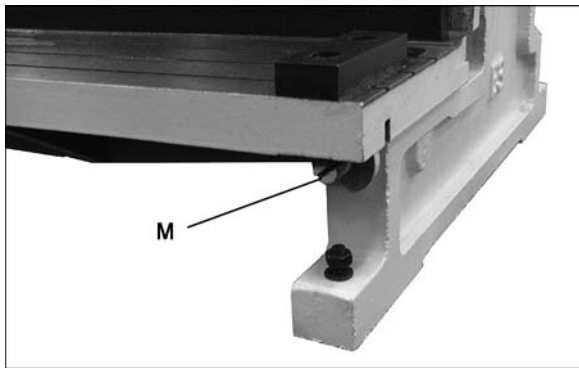

Figure 9
3. Rotate adjustment screws (M, Figure 9) to shift table and change the gap between blades. **Do not allow the blades to overlap.**